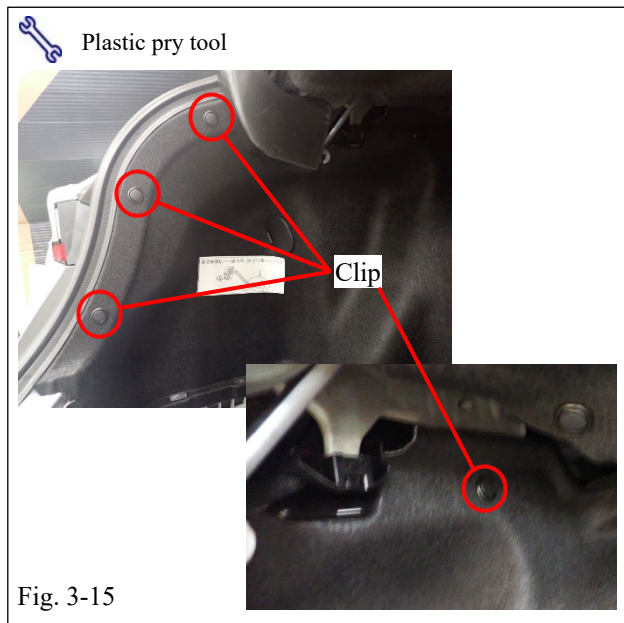

Fig. 3-15
- (m) Remove the four (4) clips attaching the LH quarter trim panel to the vehicle body using a nylon panel tool and retain for re-assembly (Fig. 3-15).